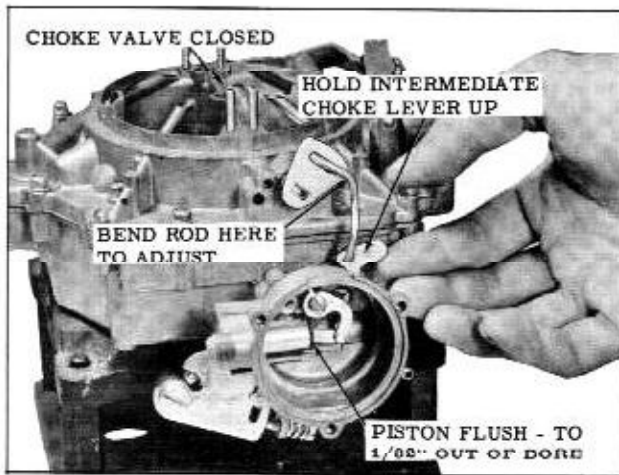

Fig. 8-124 Intermediate Choke Rod Adjustment
1. With the choke cover and baffle removed position the fast idle screw on the high step of the fast idle cam. Raise the intermediate choke lever to its full up position then push lightly on the end of choke piston to remove all lash in the linkage, check to see if the choke piston is flush to 1/32" out of the choke piston bore. (Fig. 8-124)